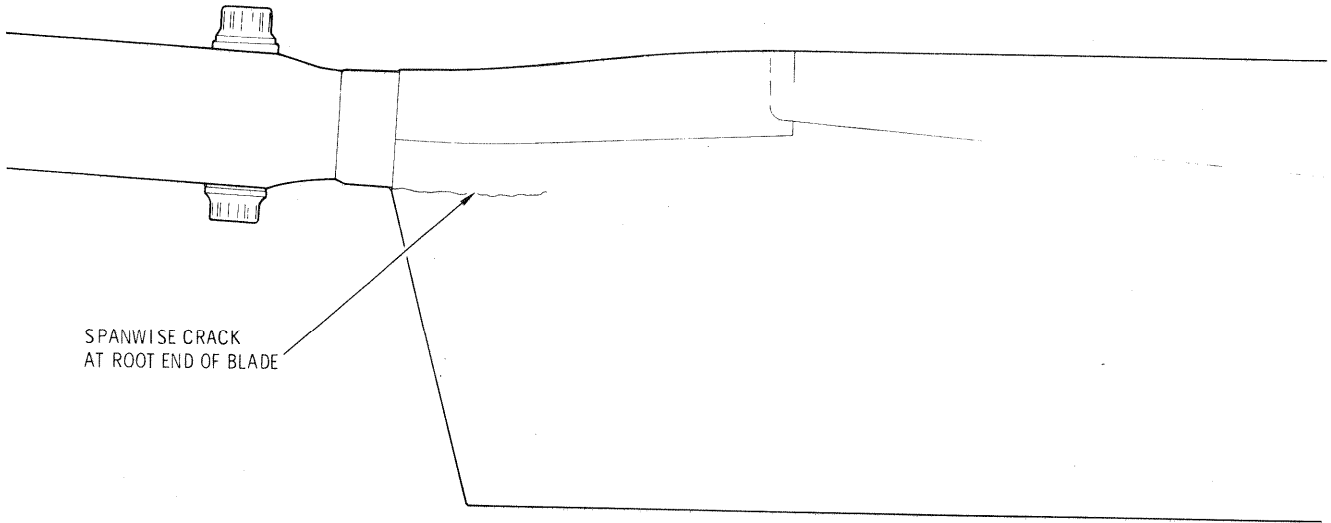

FIGURE 1
PREFACE: The information given in this Service Information Notice lists a procedure for field repair of tail rotor blades, when inspection reveals spanwise cracking at the root end of the blade close to the joint of the spar and the root end cap. (See Figure 1.)
1. If the length of the crack is less than one and one-half inches and the depth of the crack is not more than two (2) plies of the fiberglass skin, the crack can be repaired in the field using the procedure described below. (See Figures 1 thru 3.)